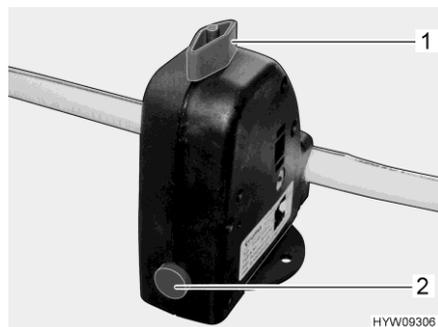

Fig. 221 Safety/drainage valve (boiler)
The boiler is equipped with a safety/drainage valve (Fig. 221). The safety/drainage valve prevents water in the boiler from freezing, when there is frost and the heater is not switched on.
- Close the safety/drainage valve. Turn the knob (Fig. 221,1) perpendicular to the safety/drainage valve and push the push button (Fig. 221,2) in.
- Open the safety/drainage valve. To do this turn the knob (Fig. 221,1) parallel to the safety/drainage valve. The push button (Fig. 221,2) jumps out. The boiler is drained to the outside by the safety/drainage valve.